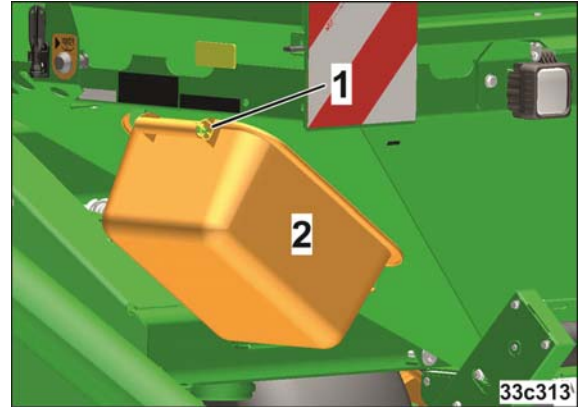

Fig. 51
The collection buckets (Fig. 51/2) are secured with a linch pin for transport (Fig. 51/1).
- o Fasten the collection buckets (Fig. 51) into the transport bracket and secure with a linch pin.